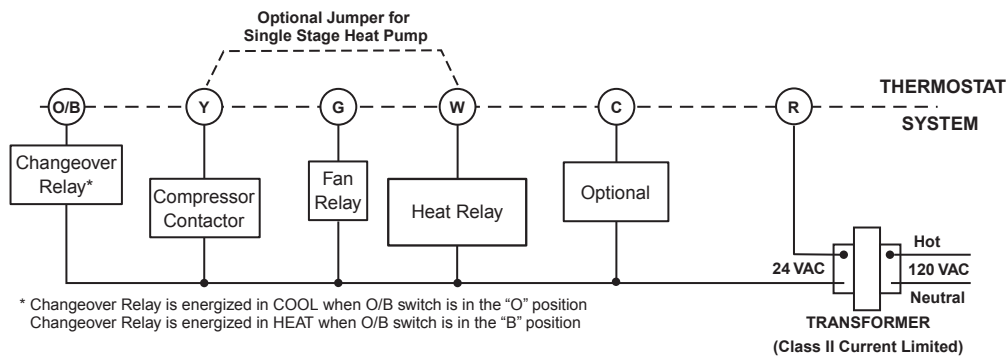

Figure 2. Typical wiring diagram for single transformer single stage systems
6. Connect wires to terminals on base using appropriate wiring schematic (see figs. 2 through 4).